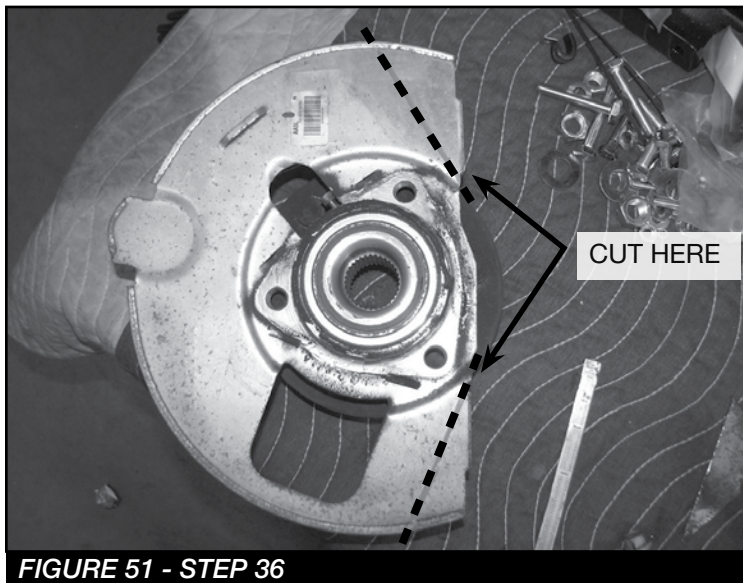

**FIGURE 48 - STEP 34**
34. Reinstall the lower control arms using the provided 5/8"-11 X 4-1/2" bolt, washers and nut for the front pocket. Use the 5/8"-11 X 5-1/2" bolt, washers, and nut for the rear pocket. Leave loose at this time. **SEE FIGURE 48**